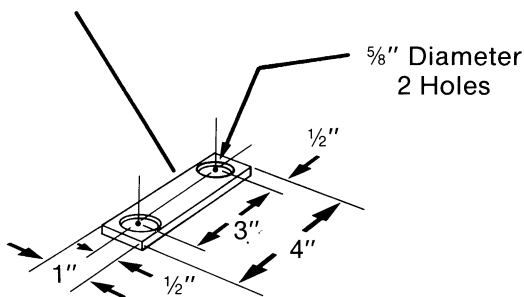

FIG. 28
- d. Make shims using flat plate stock of desired thickness, and cut and drill to the size shown in (Fig. 28).